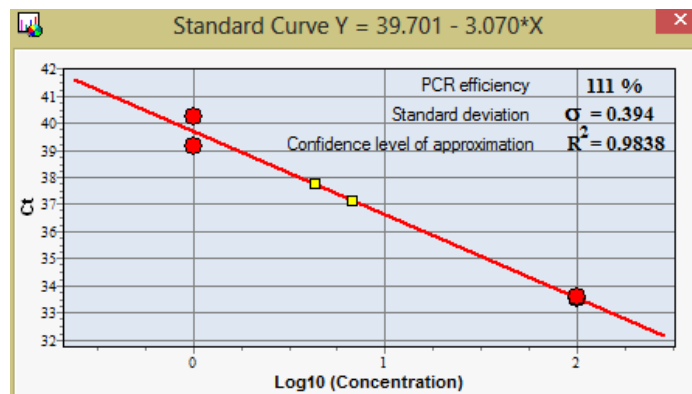

Fig.68 View a standard curve for quantitative analysis
- standard curve for quantitative analysis (Fig.68).